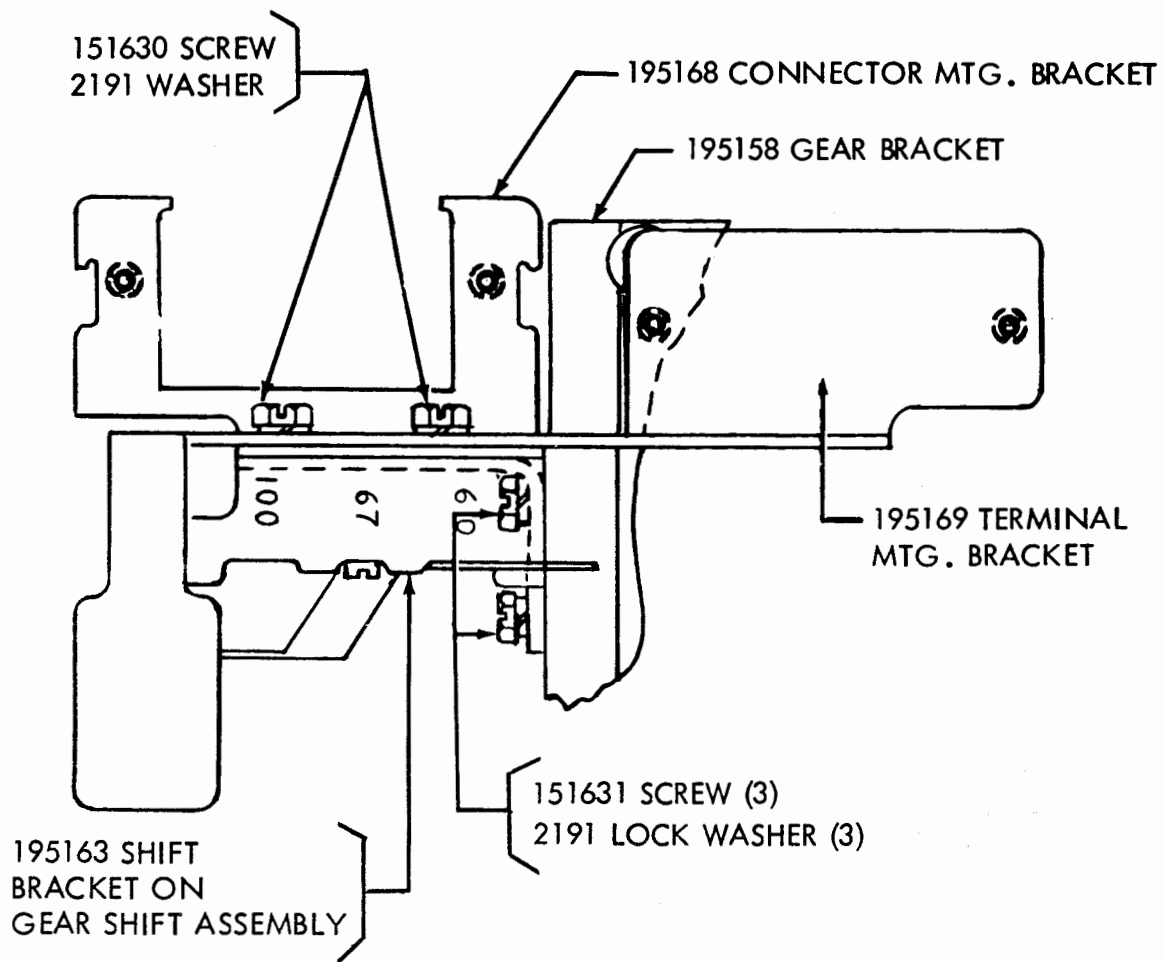

FIGURE 5
u. Fasten the 195168 bracket and 195169 terminal block bracket to the bracket mounted to the gear shift casting. Place the 195169 bracket between the 195168 bracket and the gear shift bracket. Use two each 151630 screw, and 2191 lockwasher. See Figure 5.